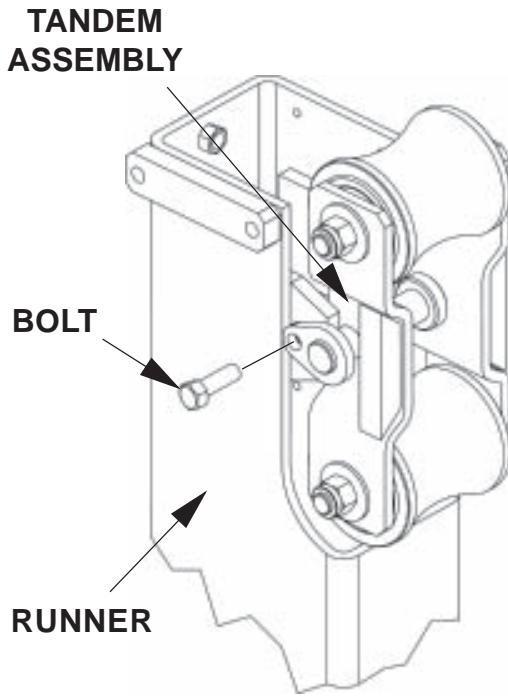
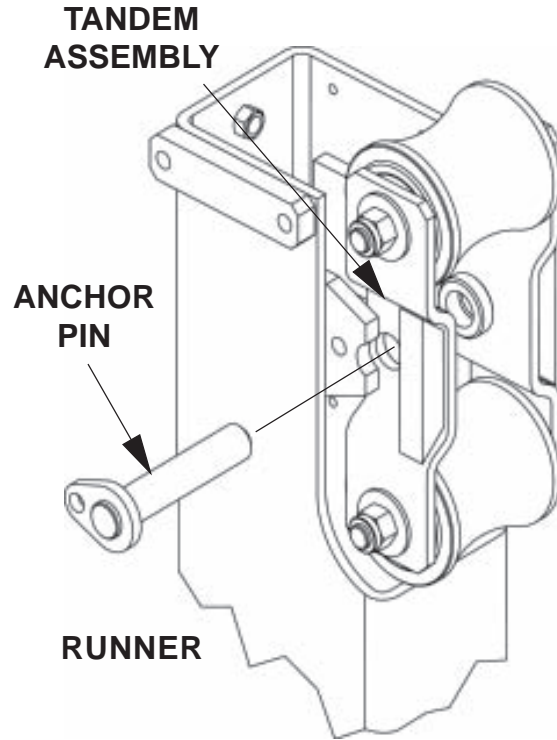
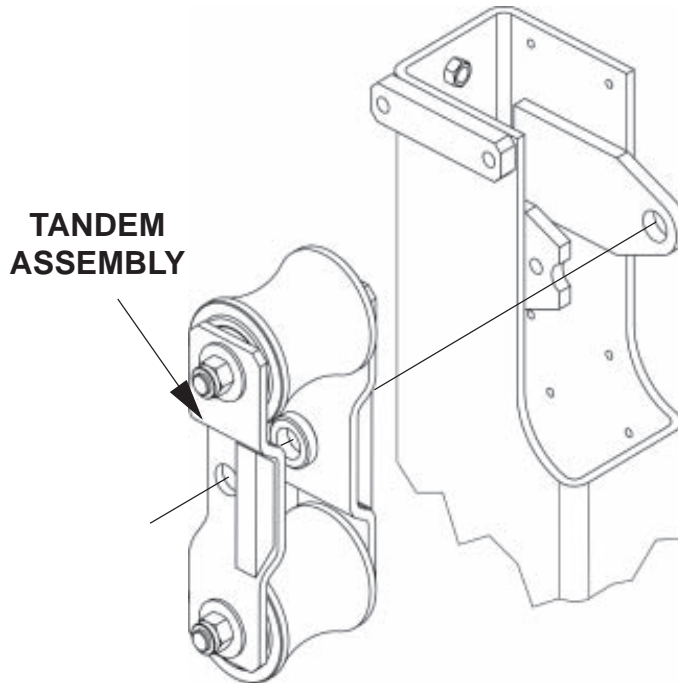

FIG. 8A
FIG. 8B
FIG. 8C
5. Remove Tandem Assembly by loosening and removing bolt from Anchor Pin (**FIG. 8A**). Remove the Anchor Pin (**FIG. 8B**) that holds Tandem Assembly to Runner. Remove the Tandem Assembly (**FIG. 8C**).